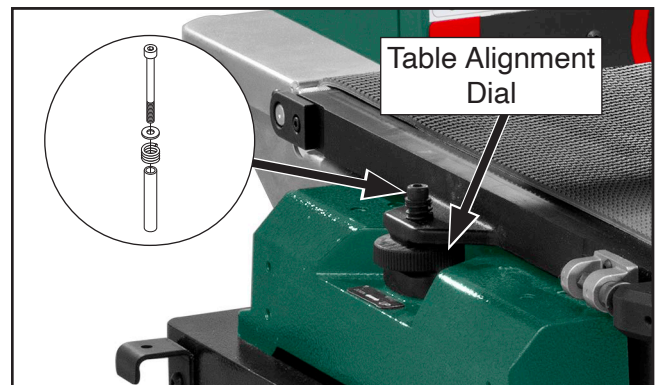

Figure 55. Location of table alignment dial and fasteners.
6. Remove cap screw, washer, compression spring, and bushing from table alignment dial (See **Figure 55**).